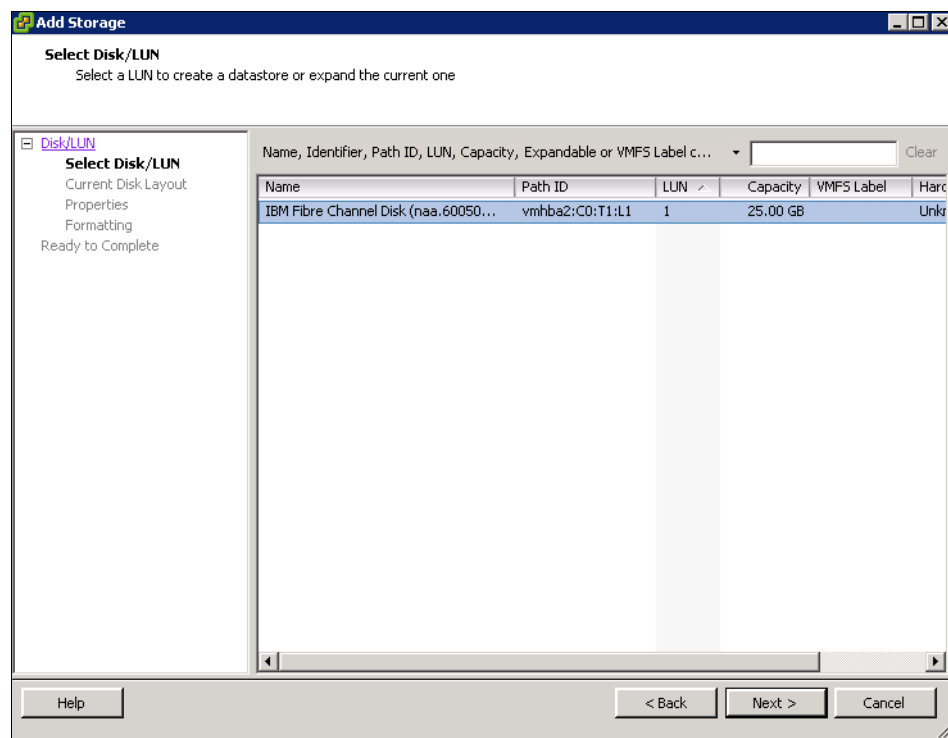

Figure 12-41 Select Disk/LUN menu
5. The Add Storage wizard opens. Click **Select Disk/LUN** and click **Next**. The IBM Flex System V7000 Storage Node disk appears (Figure 12-41). Highlight it and click **Next**.